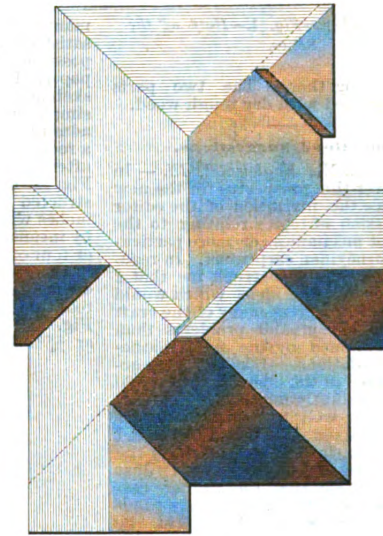

Fig. 2.
H.," Galveston, Texas, in the December number of the paper is correct, so far as it goes, but it does not cover the plan submitted in the October issue by "A. W. H." of Los Angeles, Cal. I send herewith a sketch, Fig. 2, which I think will cover the plan of "A. W. H.," and meet the requirements of the case.